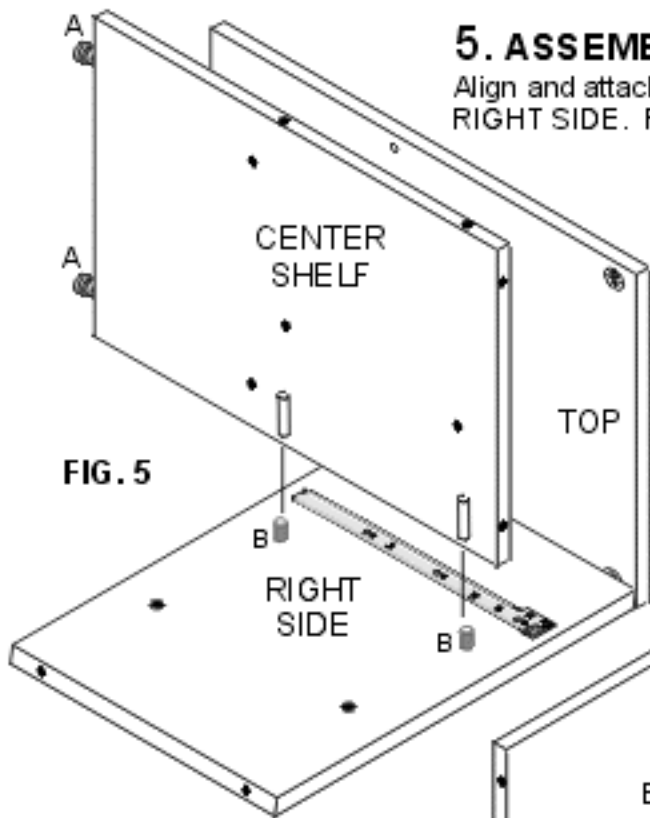

FIG. 5
Align and attach CENTER SHELF to (2) WOOD DOWEL PINS (B) prepared on RIGHT SIDE. FIG. 5 Support CENTER SHELF through STEP 6.